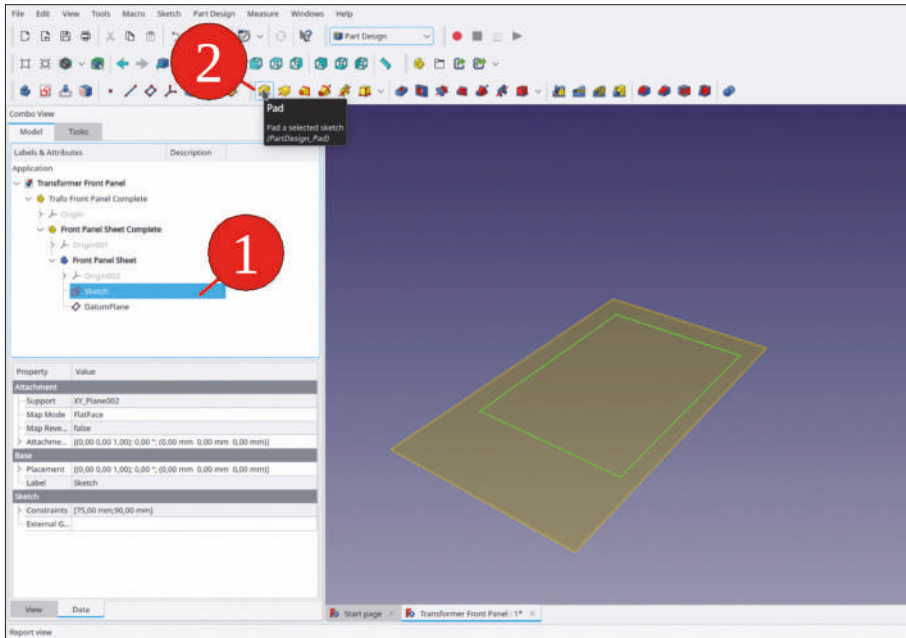

Figure 9-8
- In the tree view, mark the sketch of the panel outline, and click the 'Pad' tool button (Figure 9-8).